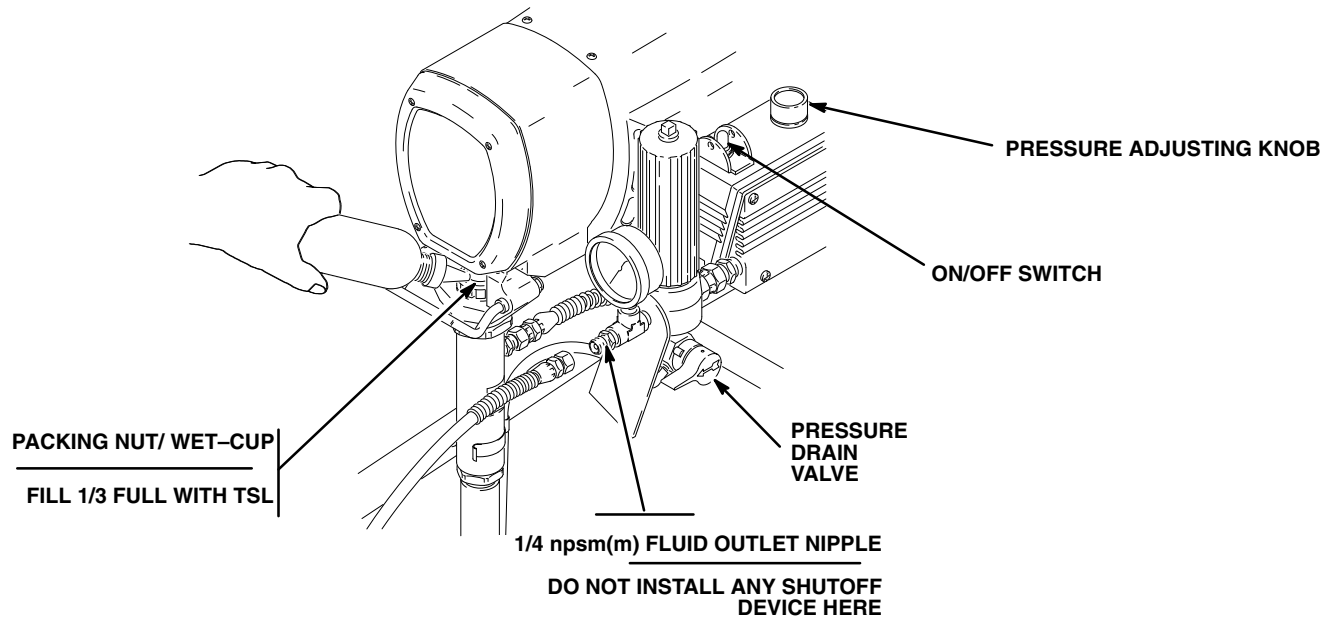

Fig. 2
3. Never install any shutoff device between the filter and the main hose. See Fig. 2.
**NOTE:** See Fig. 2 while doing the setup.